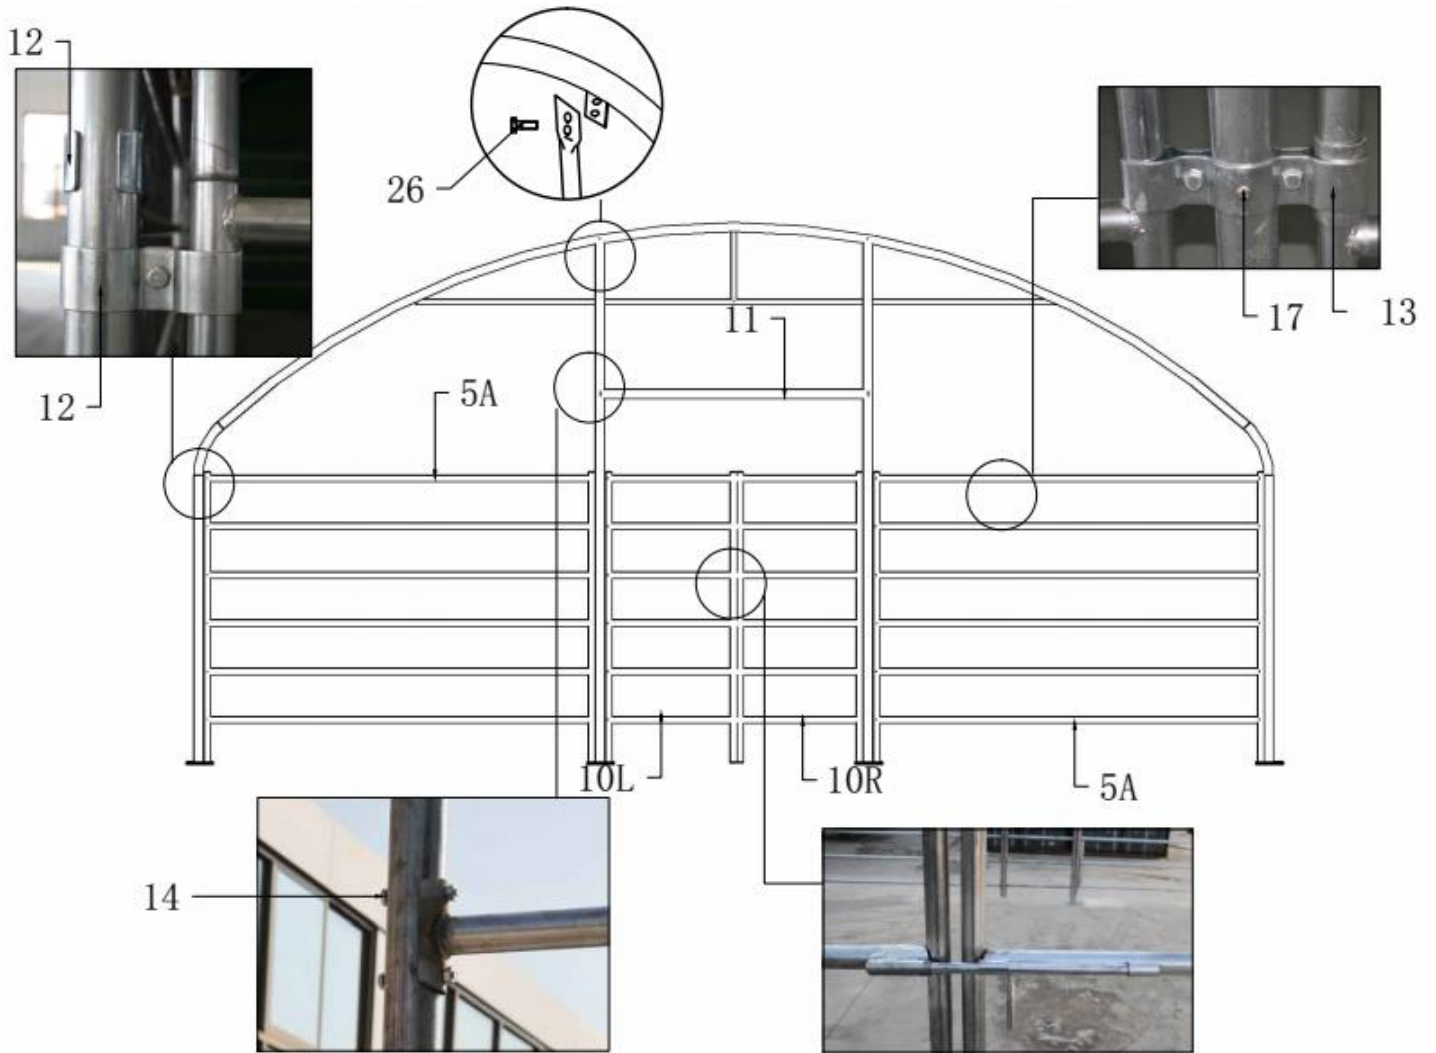
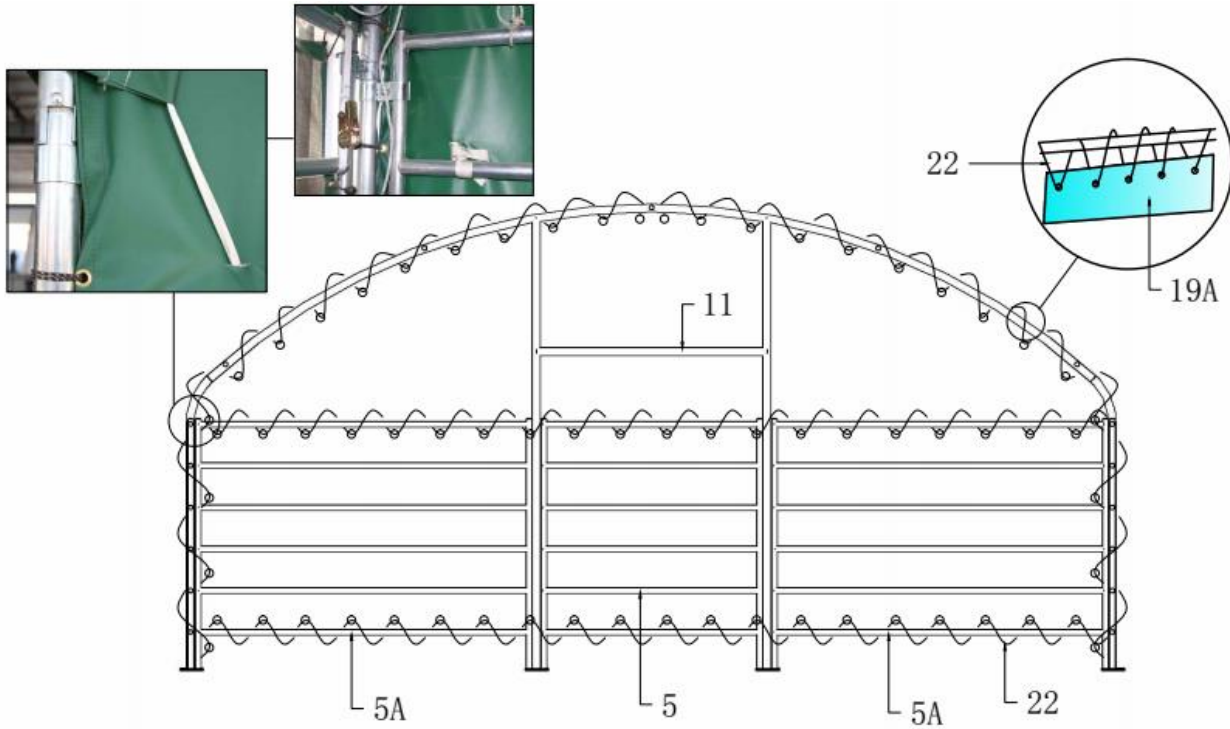
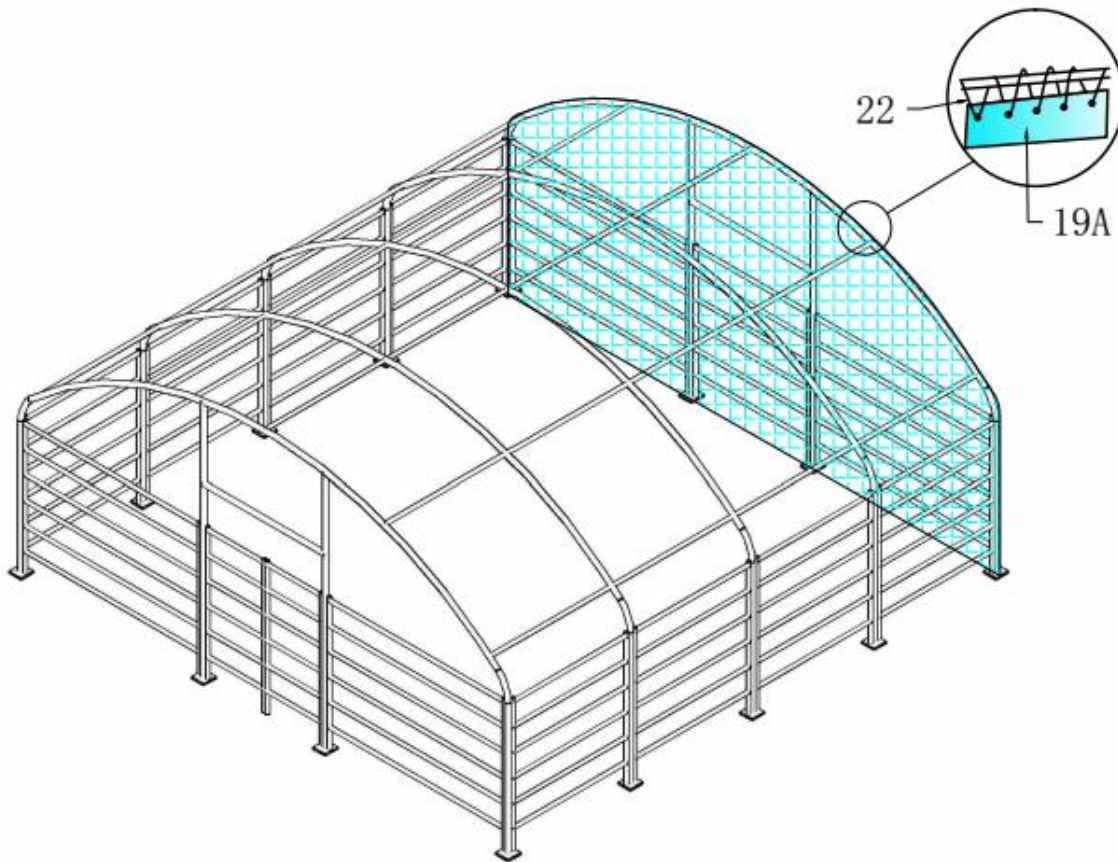

Figure 5
Figure 6
Figure 7
6. Install the front and back panel according to **Figure 5** and **Figure 6** and **7**.
Install the **Back Door Cover(No.19A)** with **Ropes(No.22)**. Reference to **Figure 6** and **Figure 7**.